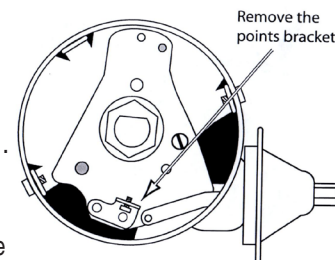

Figure 1
4. File or drill the two rivets heads and remove the small bracket from the breaker plate. See figure 1.